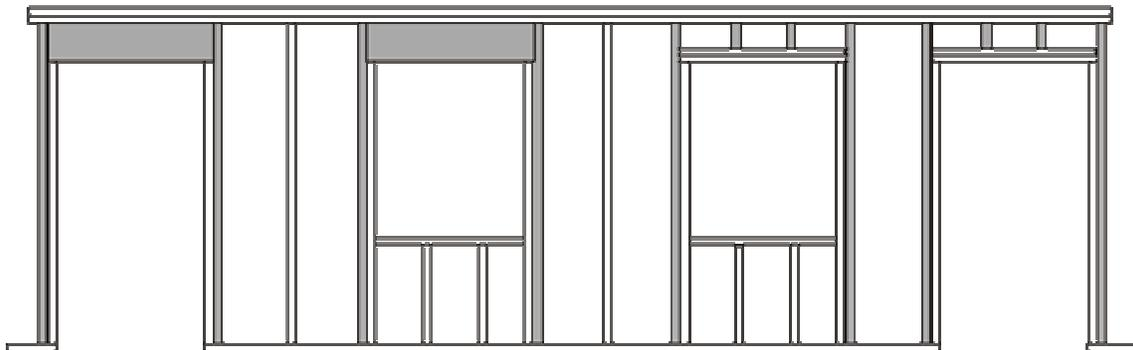

FIGURE 2
Examine where you will be mounting the awning. If you are mounting to any surface that is not concrete, refer to Figure 2 for typical locations of studs and headers. The framing members outlined in Grey will provide an appropriate anchoring point for the fasteners. This is what you would see if you removed the siding from a framed wall.
- **MAKE SURE THE WIDTH OF THE FASTENED FRAME IS CORRECT AS PROVIDED IN FIGURE 2.**